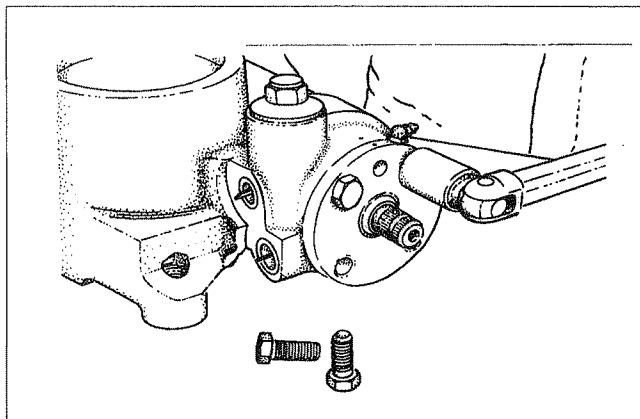

Figure 16
4. Loosen and remove the 4 bearing cap cover bolts. Remove the bearing cap cover (Figure 16).